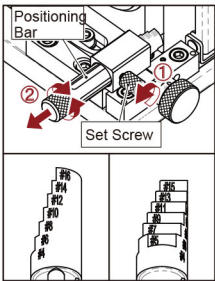

Fig. 1-2
4. According to end mill's cutting diameter, adjust the positioning bar with the diameter side facing upward. (Fig. 1-2)
- ① Loosen the set screw of the positioning bar.
- ② Pull out the positioning bar to the end to be able to rotate. Adjust the positioning bar and push it in, so that the set screw slides into the groove of the positioning bar.